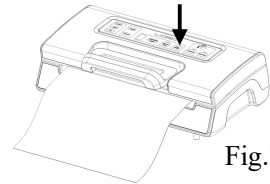

Fig.7
7. Press the SEAL button to start sealing the bag - **Fig.7**